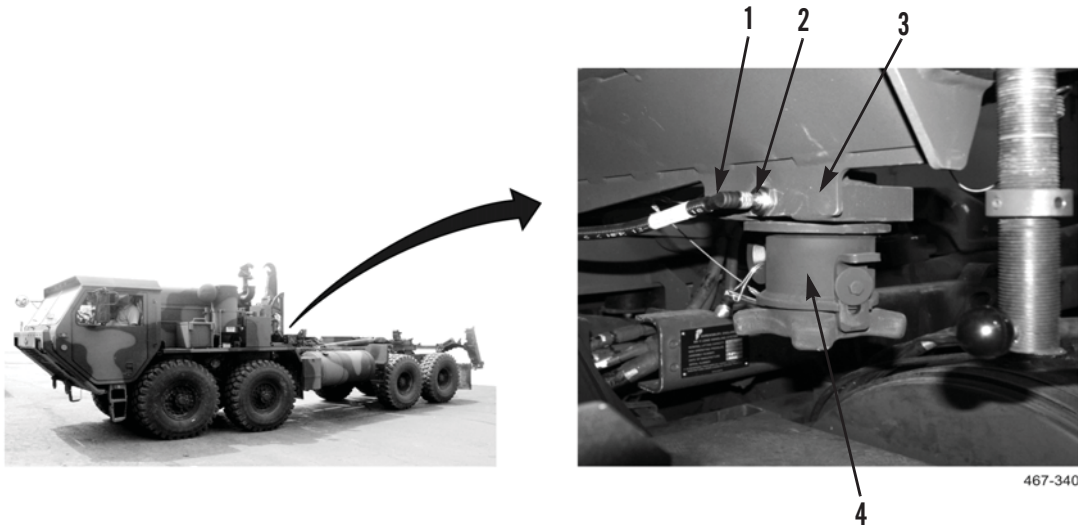

Figure 4. Front Transport Lock Sensor.
1. Disconnect electrical connector (Figure 4, Item 1) from transport lock sensor (Figure 4, Item 2).
2. Remove transport lock (Figure 4, Item 4) from bracket (Figure 4, Item 3) (WP 0008).